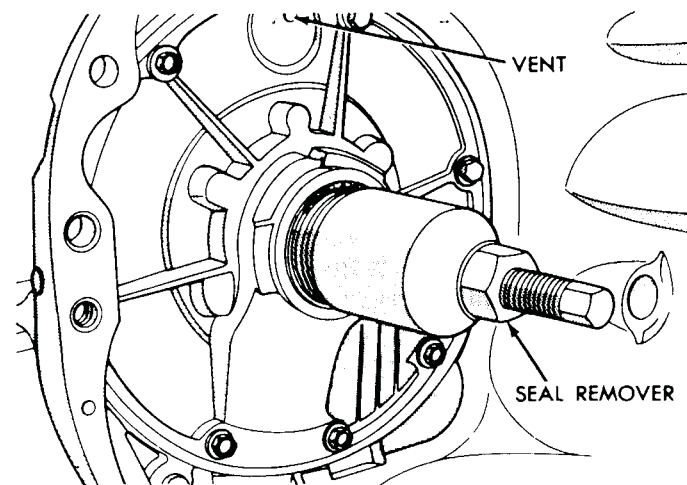

Fig. 2—Remove Pump Oil Seal
(1) Screw seal remover Tool C-3981 into seal (Fig. 2), then tighten screw portion of tool to withdraw the seal.